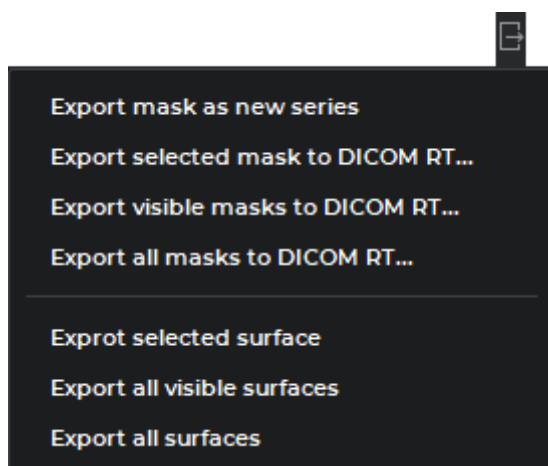

Figure 6.18: Export drop-down menu
2. Call up the popup menu with the export options (Fig. 6.18) in one of the following ways: